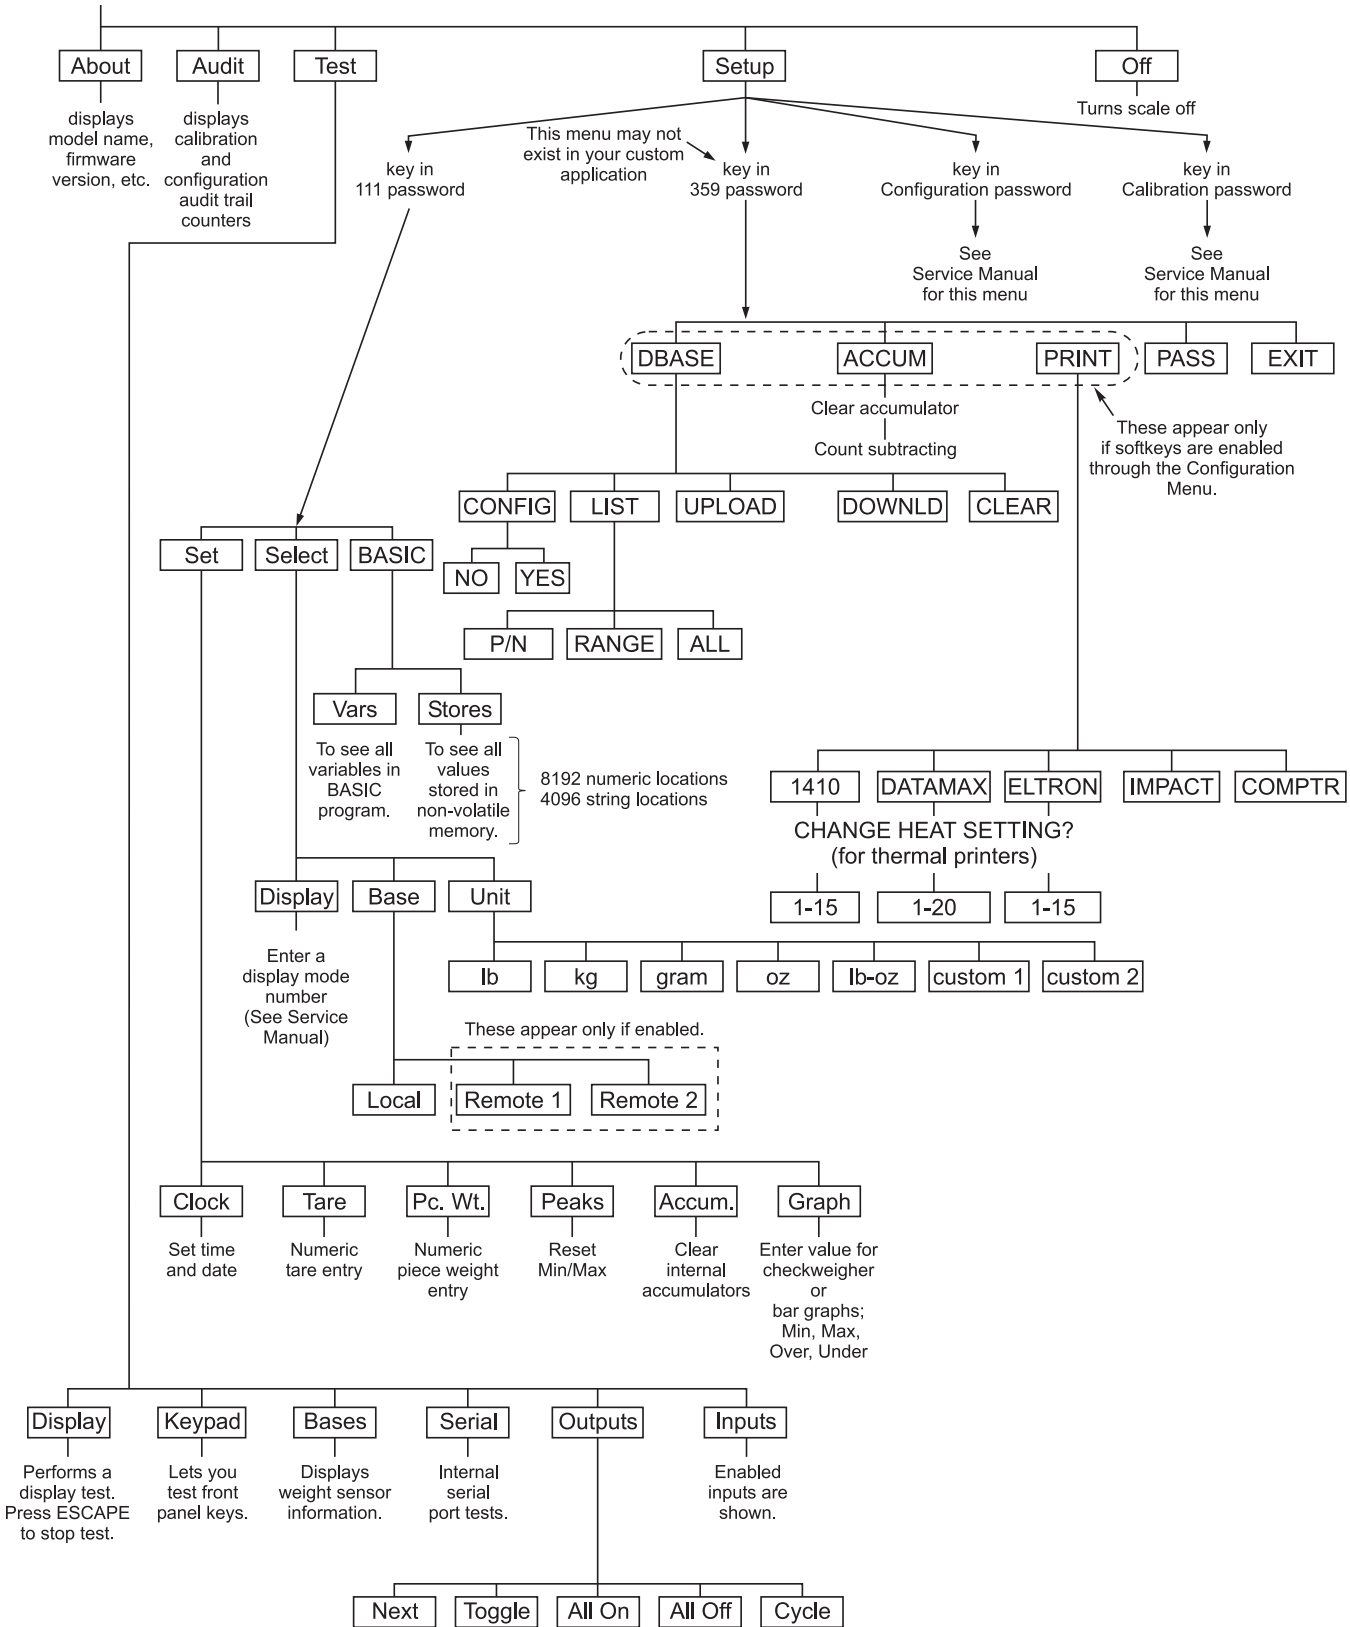

Figure 2
To enter the menu, press and hold the **ESCAPE** key until the unit beeps. The menu structure is pictured in Figure 2. The words in the rectangles represent softkeys you will see on the display.
- Setup** Press this softkey to access the password protected menus. The password for the User menu is 111. Figure 2 illustrates all the items you access in the User menu. Each is explained in the next section: *User Menu*.
This section covers the User menu. Refer to Figure 2. Access this menu by following these steps:
3. Key in 359 to enter the data menu. . . These softkeys appear if your unit has all the functions enabled: **DBASE, ACCUM, PRINT, PASS, and EXIT.** See Figure 2.
The PC-820 will send a pre-selected print format to a connected printer or computer when the **PRINT** softkey is pressed. (The **PRINT** softkey must be enabled for this to happen. See the *Service Manual*). See Figure 2 to select printer type. Print format for the thermal label is a configuration item. See the *Service Manual*. Below are examples of the different outputs to label printers, tapes printers and a computer. The font size on your label may vary from the examples shown below.